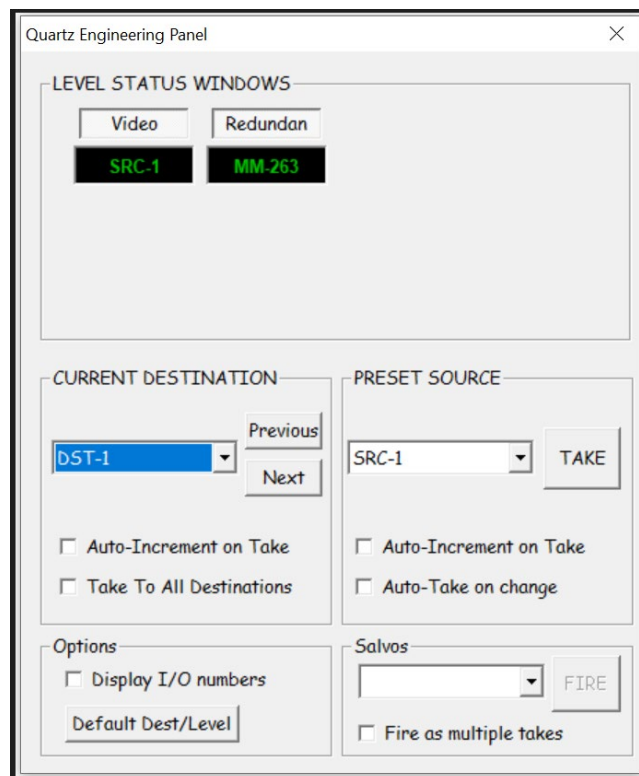

Figure 16-1: Level Status Window
- The status of the output will be displayed under “Level Status Window”. Shown in Figure 16-1 below.